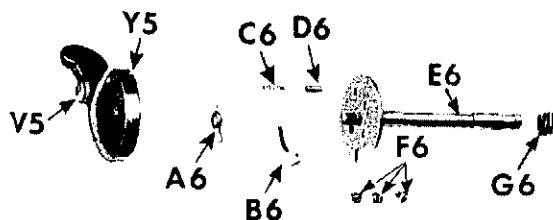

Fig. 137. Exploded View of Bight Lever
BIGHT LEVER SUB-ASSEMBLY See Figs. 137 to 140
11. Insert bight lever plunger spring **C6** into plunger **D6**, **Fig. 137**. Then insert the combination